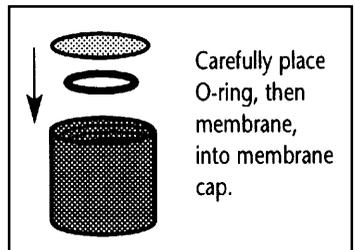

**Figure 35: Parts of electrode showing O-ring, membrane & lock**
1. Pull off the probe guard. See Figure 35.